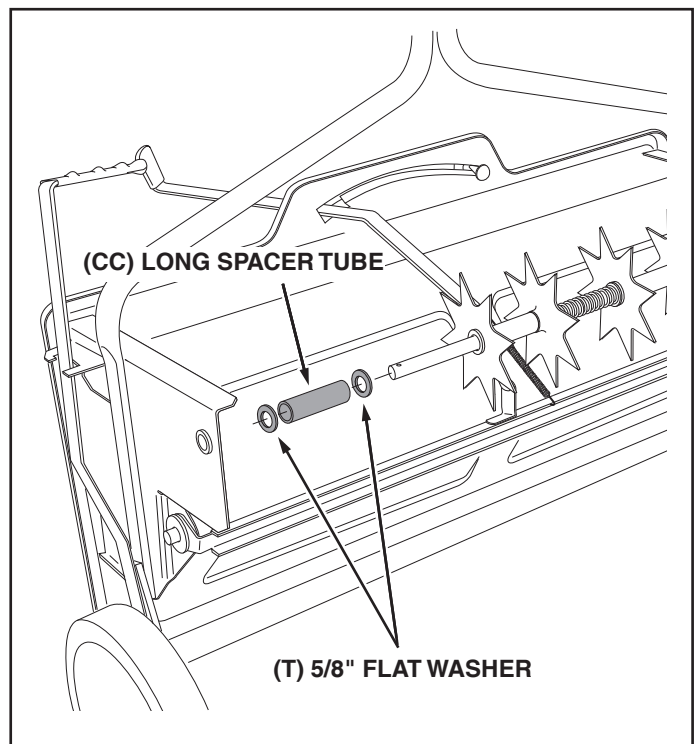

FIGURE 18
37. Place two 5/8" flat washers separated by a long spacer tube onto the shaft. See figure 18.